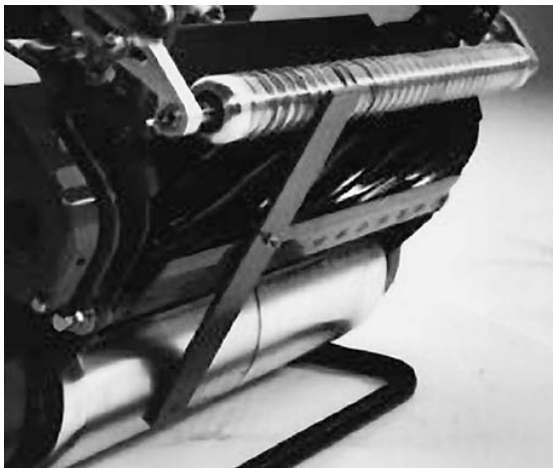

Figure 8
4. Hook the screw head on the cutting edge of the bedknife and rest the rear end of the bar on the rear roller (Fig. 8).